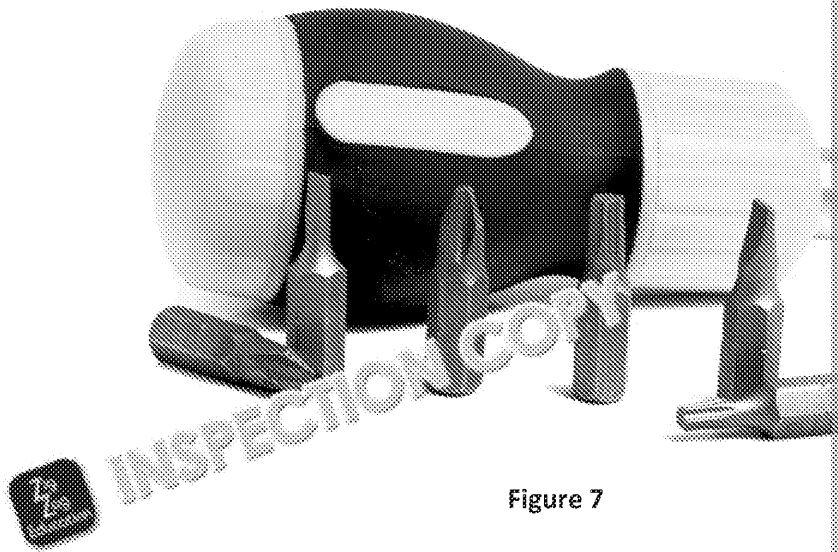

Figure 7
12.1. Some interchangeable screwdriver bits are shown in Figure 7, below.